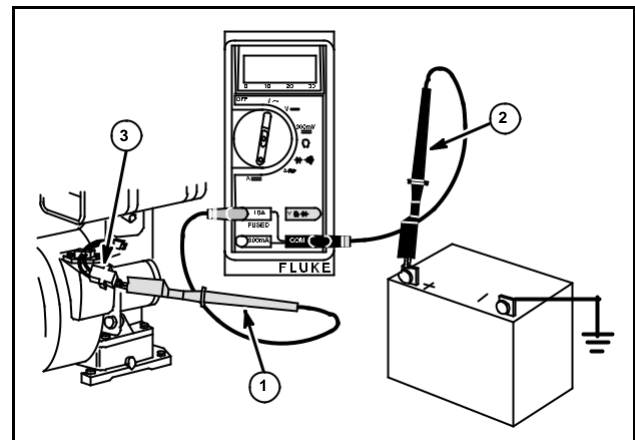

Fig. 29
4. Attach RED test lead (1) clip to charging output pin (3, red wire), Fig. 29.
5. Attach BLACK test lead (2) clip to positive (+) battery terminal.